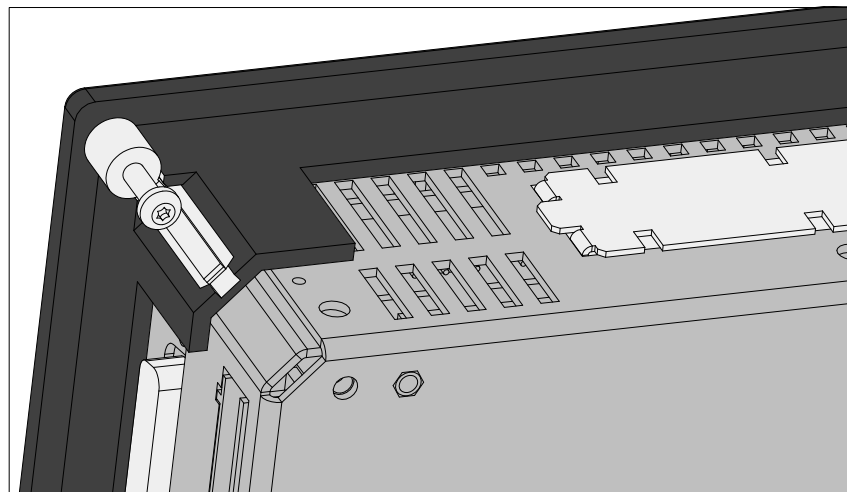

Figure 2-5 Fixing Bracket Engaged, with Screw
5.	Screw the 4 fixing screws enclosed with the C7 into the 4 fixing brackets enclosed (see Figure 2-5) (approximately. 2 to 3 turns).